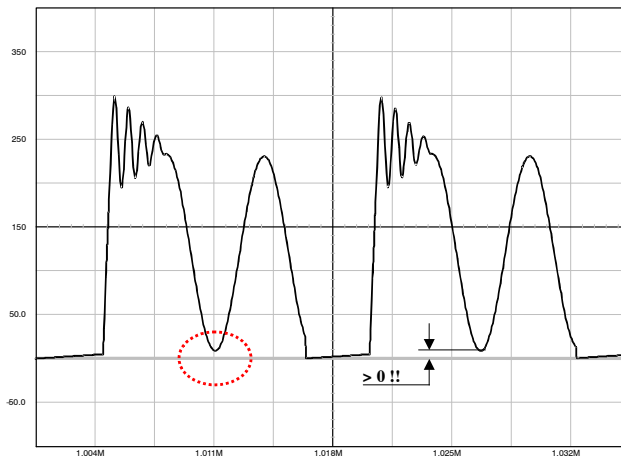

Figure 46. The Drain-source Wave Shall always be Positive
1. The lateral MOSFET body-diode shall never be forward biased, either during start-up (because of a large leakage inductance) or in normal operation as shown in Figure 46. This condition sets the maximum voltage that can be reflected during toff. As a result, the Flyback voltage which is reflected on the drain at the switch opening cannot be larger than the input voltage. When selecting components, you thus must adopt a turn ratio which adheres to the following equation:
Figure 48a: the simple capacitor limits the voltage according to the lateral MOSFET body–diode shall never be forward biased, either during start–up (because of a large leakage inductance) or in normal operation as shown by Figure 46. This condition sets the maximum voltage that can be reflected during t_{off} . As a result, the flyback voltage which is reflected on the drain at the switch opening cannot be larger than the input voltage. When selecting components, you must adopt a turn ratio which adheres to the following Equation 3. This option is only valid for low power applications, e.g. below 5 W, otherwise chances exist to destroy the MOSFET. After evaluating the leakage inductance, you can compute C with (Equation 4). Typical values are between 100 pF and up to 470 pF. Large capacitors increase capacitive losses...